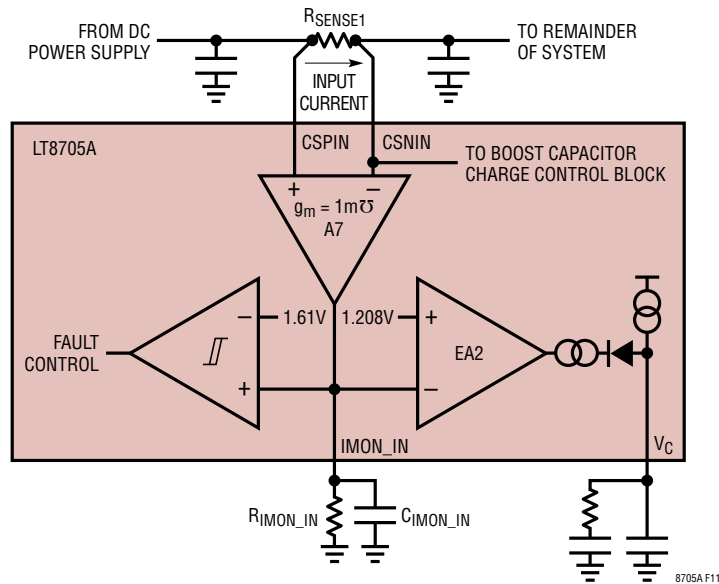

Figure 11. Input Current Monitor and Limit
The LT8705A has independent input and output current monitor circuits that can be used to monitor and/or limit the respective currents. The current monitor circuits work as shown in Figures 11 and 12.
**Current Limiting:** As shown in Figure 11, IMON\_IN voltages exceeding 1.208V (typical) cause the  $V_C$  voltage to reduce, thus limiting the inductor and input currents.  $R_{IMON\_IN}$  can be selected for a desired input current limit using: